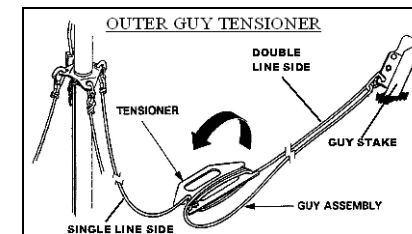
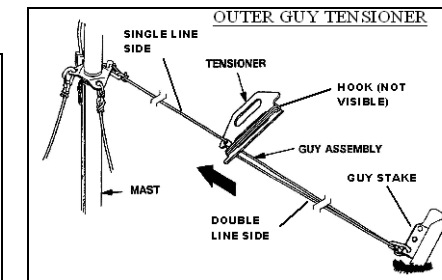

Figure 12
Figure 13
15. Unwrap the three outer guy tensioners and attach the green snap hooks on the single line side to the upper (2.0") guy plate (green) and the green snap hooks on the double line side to the lowest hole on the outer guy stakes. Note that the snap hooks should be fastened from underneath the guy plate. See Fig. 8 and Fig. 12.
25. Remove the slack in one of the outer guy tensioners by winding the trailing end of the guy line around the tensioner. See Fig. 12.
26. Tension the line by sliding the tensioner toward the mast and lock it by placing the guy tensioner hook over the double guy lines. See Fig. 13.
2. Release the three outer guy tensioners to slacken the upper guy lines. (Ref. Fig. 12 and Fig. 13)